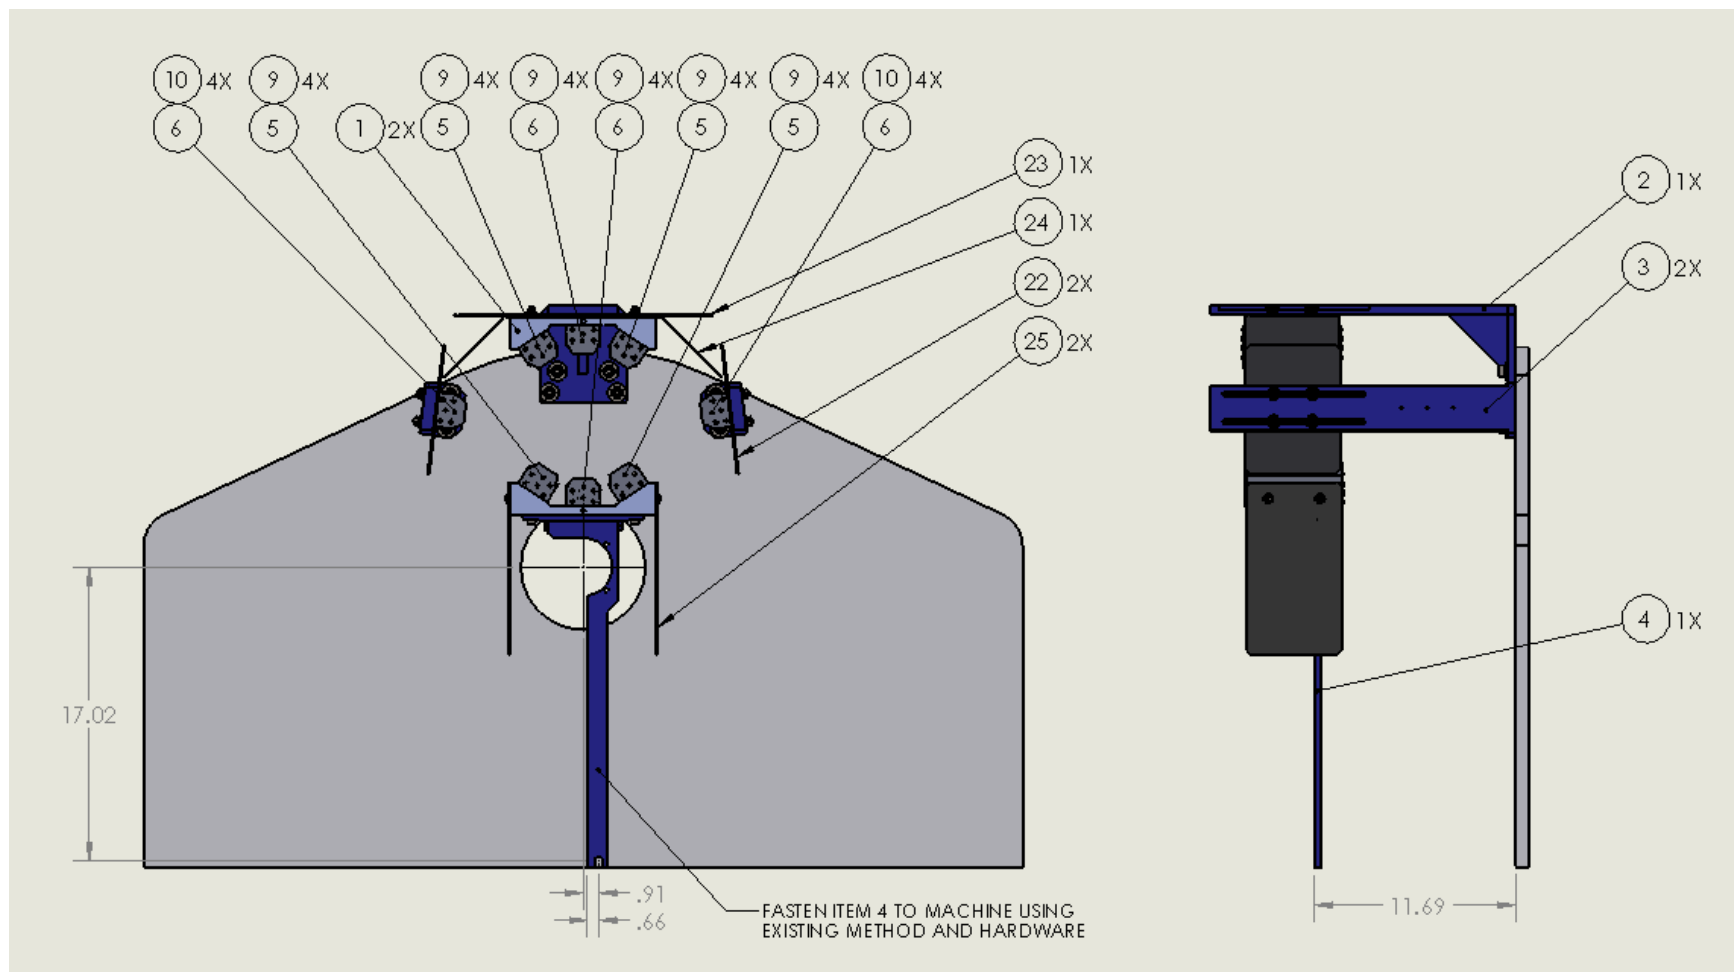

Figure 1 – General System Location and Identification – See Table 1
Prior to installation, review figures 1 and 2, table 1 and drawing 202006 (located at the back of this document) to familiarize yourself with the components of the LT4-8-10 Upgrade Kit. The LT4-8-10 Upgrade Kit has two variations: a six lamp and eight lamp. The drawings in this document illustrate the eight lamp variant. Installation of the six lamp variant is identical with the exception of mounting the TL102AL lamps (item 6) in the center position of light block mount (item 1) and their associated wiring. These installation variations are noted in the instructions as they arise.